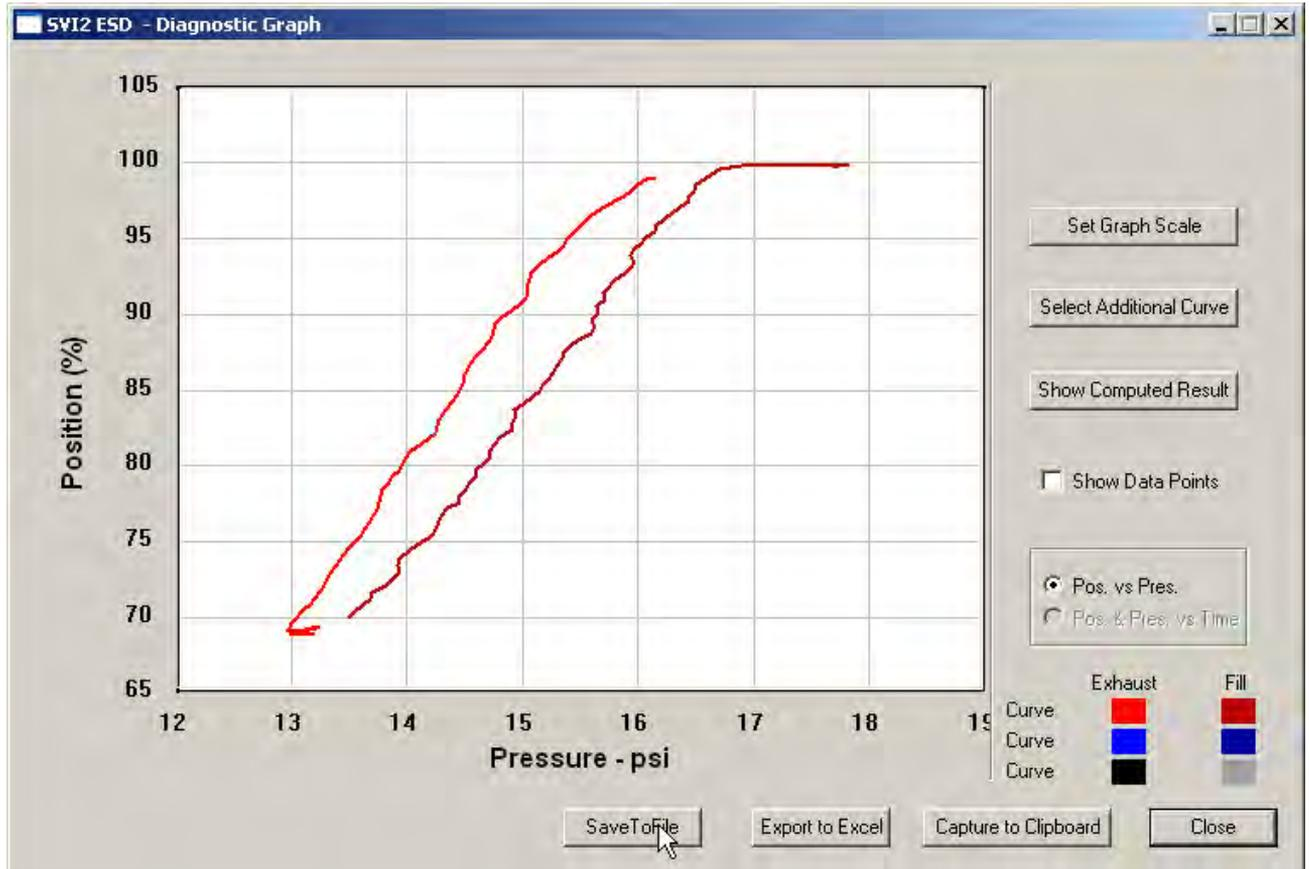

Figure 222 Selecting Save To File
1. Select **Save To File** (Figure 222).